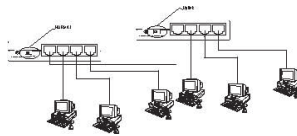

Figure 4a. Interconnecting to Hubs
- Connect one end of the cable to the 1st port of the hub and the other end to another hub, as shown in Figure 4a and Figure 4b.